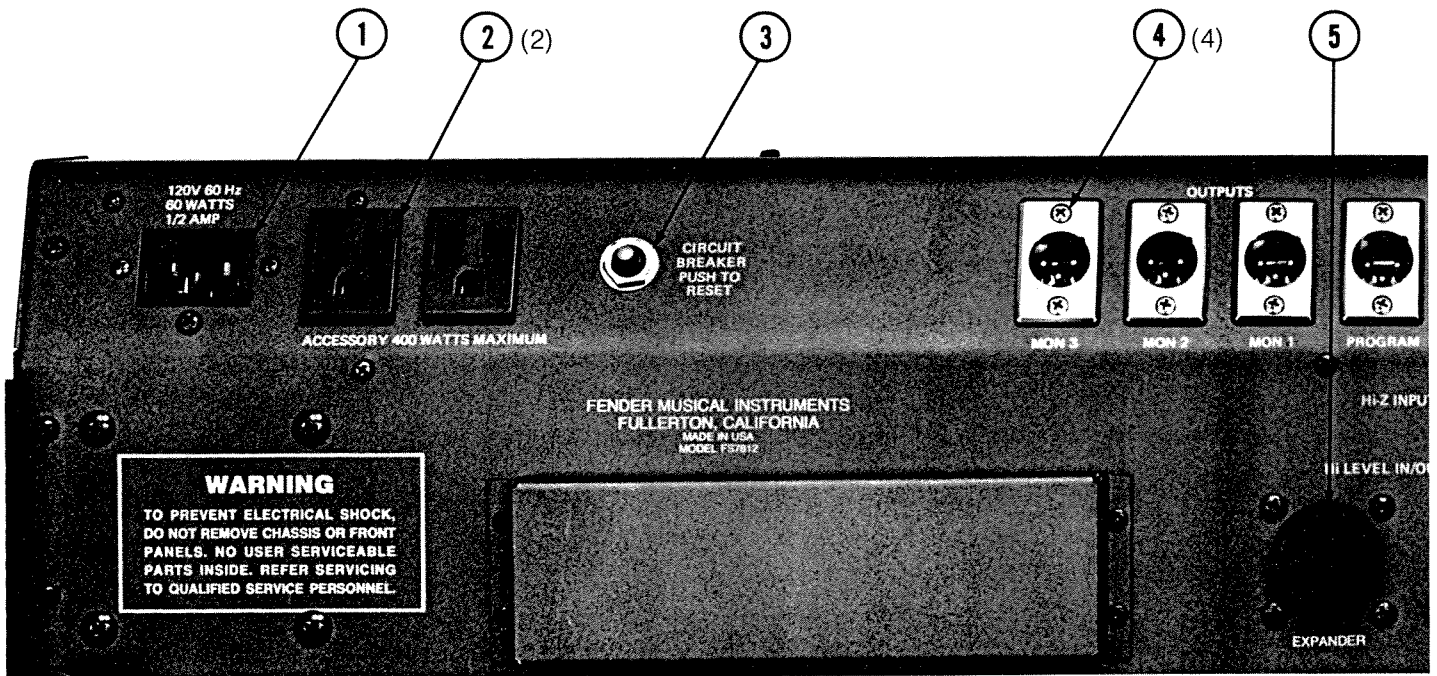

FIGURE 6 — Rear Panel Connectors
## REAR PANEL CONNECTORS (Fig. 6)
### 1. Low Impedance (LO-Z) Microphone Inputs (Fig. 6 - Item 6)
### 2. High Impedance (HI-Z) Inputs (Fig. 6 - Item 7)
### 3. High Level Input/Output Jacks (Fig. 6 - Item 8)
### 4. Main Outputs (Fig. 6 - Item 4)
### 5. Unbalanced Outputs (Fig. 6 - Item 8)
## 6. Record Outputs (Fig. 6 - Item 9)
## 7. Direct Inputs (Fig. 6 - Item 10)
## 8. Auxiliary Inputs (Fig. 6 - Item 11)
## 9. Sub Master Line Output/Input Jacks (Fig. 6 - Item 12)
## 10. Sub Master Direct Inputs (Fig. 6 - Item 13)
## 11. Cue Out Jack (Fig. 6 - Item 14)
## 12. Cue/Effects Direct Input Jack (Fig. 6 - Item 15)
**13. Effects Send Jack** (Fig. 6 - Item 16)
**14. Effects Return Jack** (Fig. 6 - Item 17)
**15. Power Cord Connector** (Fig. 6 - Item 1)
**16. Accessory AC Outlets** (Fig. 6 - Item 2)
**17. Circuit Breaker** (Fig. 6 - Item 3)
**18. Panel Lamp Socket** (Fig. 6 - Item 18)
**20. Expander Connector** (Fig. 6 - Item 19)